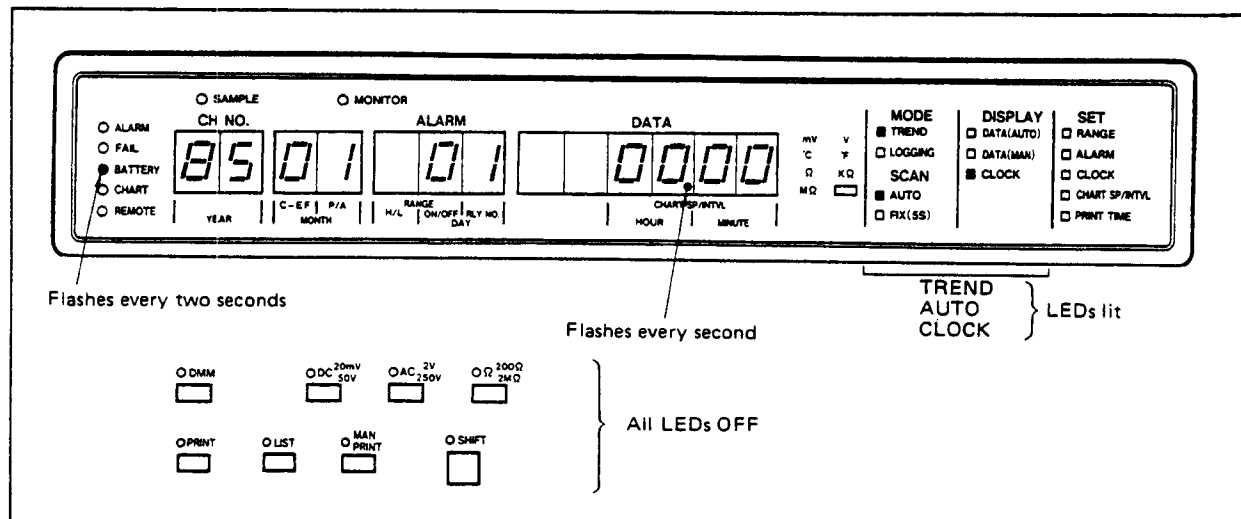

Figure 10-9.
- 2) Confirm that the instrument display is in CLOCK mode as shown in Figure 10-9 and the instrument initial display is